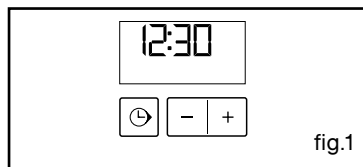

fig.1
Ensure that the programmer displays the time of day and that it is not flashing (fig.1).
Simply position your cooking selector on the  "Pyrolysis" position or on the  "ECO Pyrolysis" (fig.1).
- b) Unscrew the view port (fig.1).